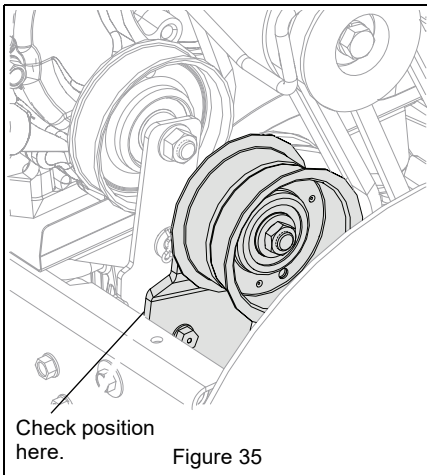

Figure 35
5. With the attachment clutch disengaged, make sure auger idler arm lightly touches the frame. See Figure 35.